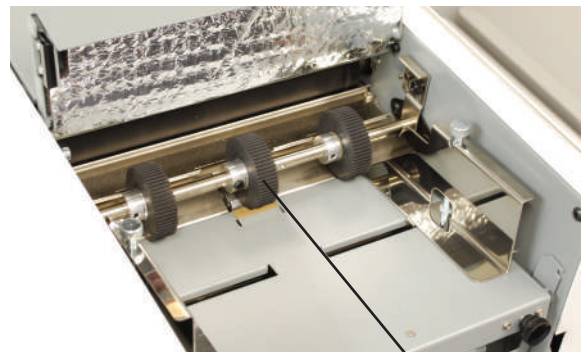

Fig. 12a
1. Make sure machine is turned off and unplugged. The sealers have three (3) feed tires and four (4) rubber rollers (Fig. 12a & 12b).